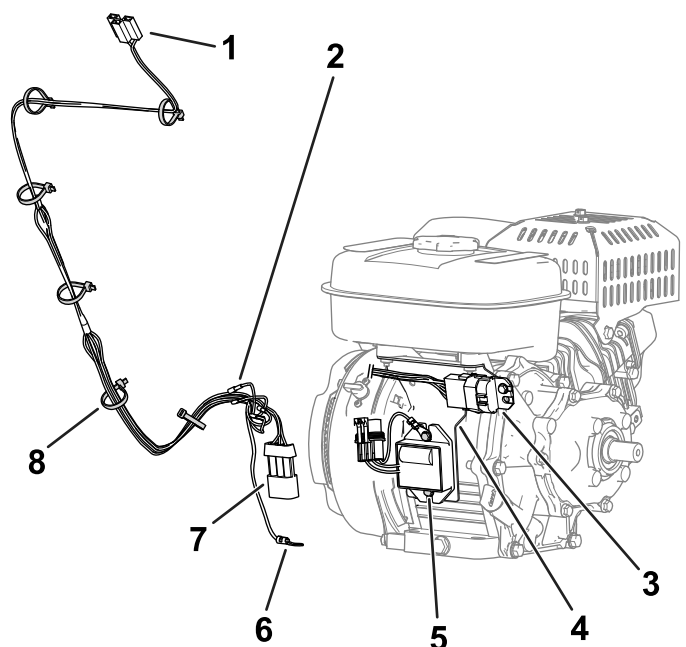

Figure 1
5. Install the new bracket (Figure 1) with the 2 nuts that you previously removed.
6. Install the interlock module to the new bracket (Figure 1).
7. Install the voltage regulator to the new bracket (Figure 1).